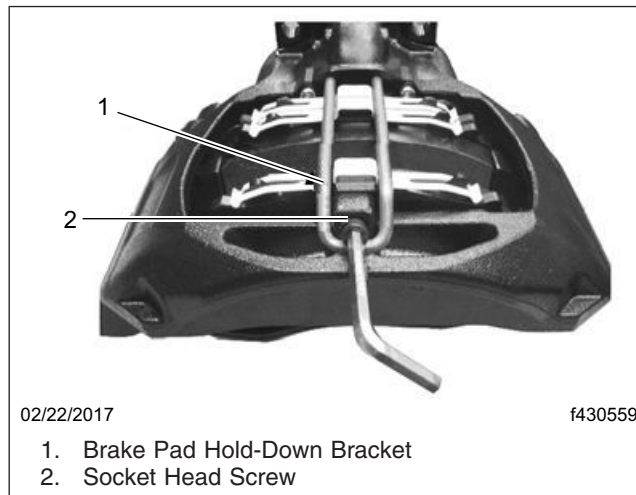

Fig. 2, Removing the Brake Pad Hold-Down Bracket Screw
6. Using a wrench, remove the socket head screw from the brake pad hold-down bracket, putting slight pressure on the brake pad hold-down bracket with your hand at the same time. See Fig. 2.